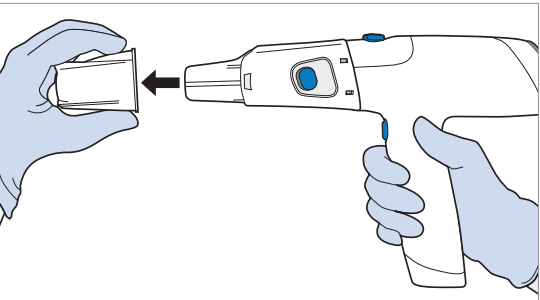

Figure 58 Remove Array Cap
1. Remove the Array Cap (see Figure 58).